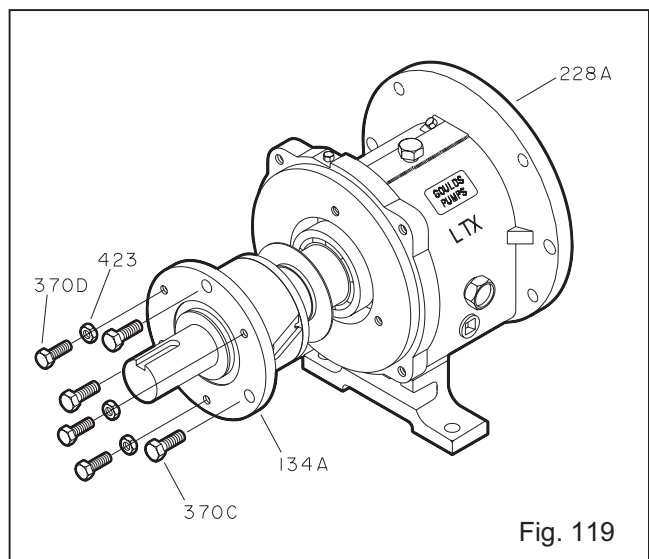

Fig. 119
15. Coat all internal surfaces of bearing frame (228) with oil.
16. Install shaft assembly into frame (228A). Check shaft for free turning (Fig. 119).
18. Install jacking bolts (370D) with locking nuts (423) into housing (134A). Hand tighten.